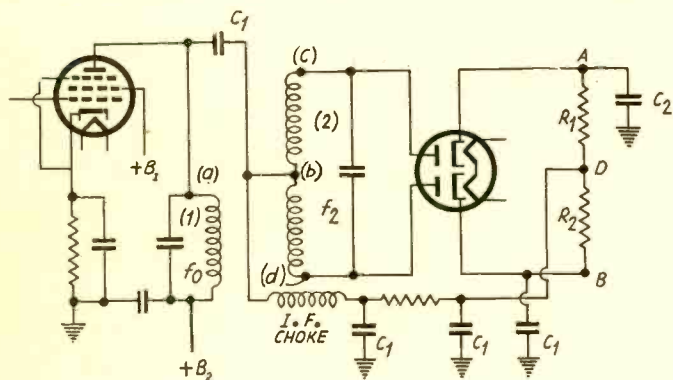

FIG. 3.
The arrangement in a simplified discriminator which has been incorporated in commercial receivers is shown in Fig. 3. The intermediate carrier is delivered by the first tube to the tank circuit (1), which is tuned to f_0 . The coil of this circuit is coupled loosely to another circuit resonant to f_0 . The top point, (a), of the first circuit is connected to the midpoint, (b), of the second circuit, through a condenser C_1 . The second circuit, (2), is connected to the plates of two diode detectors. The voltage at the point
When the frequency of the oscillator in Fig. 4 is to be controlled by the discriminator in Fig. 3, point B is connected to the negative of the fixed bias for the control tube. If no bias is used, or if there is self-bias, this point is ground. In other cases it may be a point on a common voltage divider.
In every case point A of Fig. 3 is connected to point A on Fig. 4.
It will be observed that the discriminator circuit in Fig. 3 can be used not only for a.f.c. but also for a.v.c. and audio. Point D is always negative with respect to point B. Hence this point corresponds to the negative end of the load resistor in the plain detector, and the grids to be volume-controlled are to be connected to this point. The audio signal voltage can also be taken off this point, or from any point on R_2 between D and B. Indeed, R_2 may be the audio volume control potentiometer. For good audio output the by-pass condenser connected to D should not be too large, say not over 100 mmfd., assuming that R_2 is of the order of half megohm.
The discriminator circuit shown in Fig. 2 can be used for varying the frequency of an oscillator like that in Fig. 4 in exactly the same way as the discriminator in Fig. 3. Its only drawback is that another detector is required for the a.v.c. and the audio. A side circuit discriminator has also been used for varying the frequency electro-mechanically. A balanced relay is put in the output circuit of the dual rectifier in place of the two resistances, and the armature of that relay carries the plate of a small condenser which is in shunt with the coil of the oscillator. When the relay is unbalanced in one direction, the capacity in the circuit is too small but the relay acts to increase it. When the relay is unbalanced in the opposite direction, the capacity in the circuit is too large, but the relay acts to decrease it. The net effect is exactly the same as if the frequency of the oscillator were controlled by means of mutual conductance change as in Fig. 4.